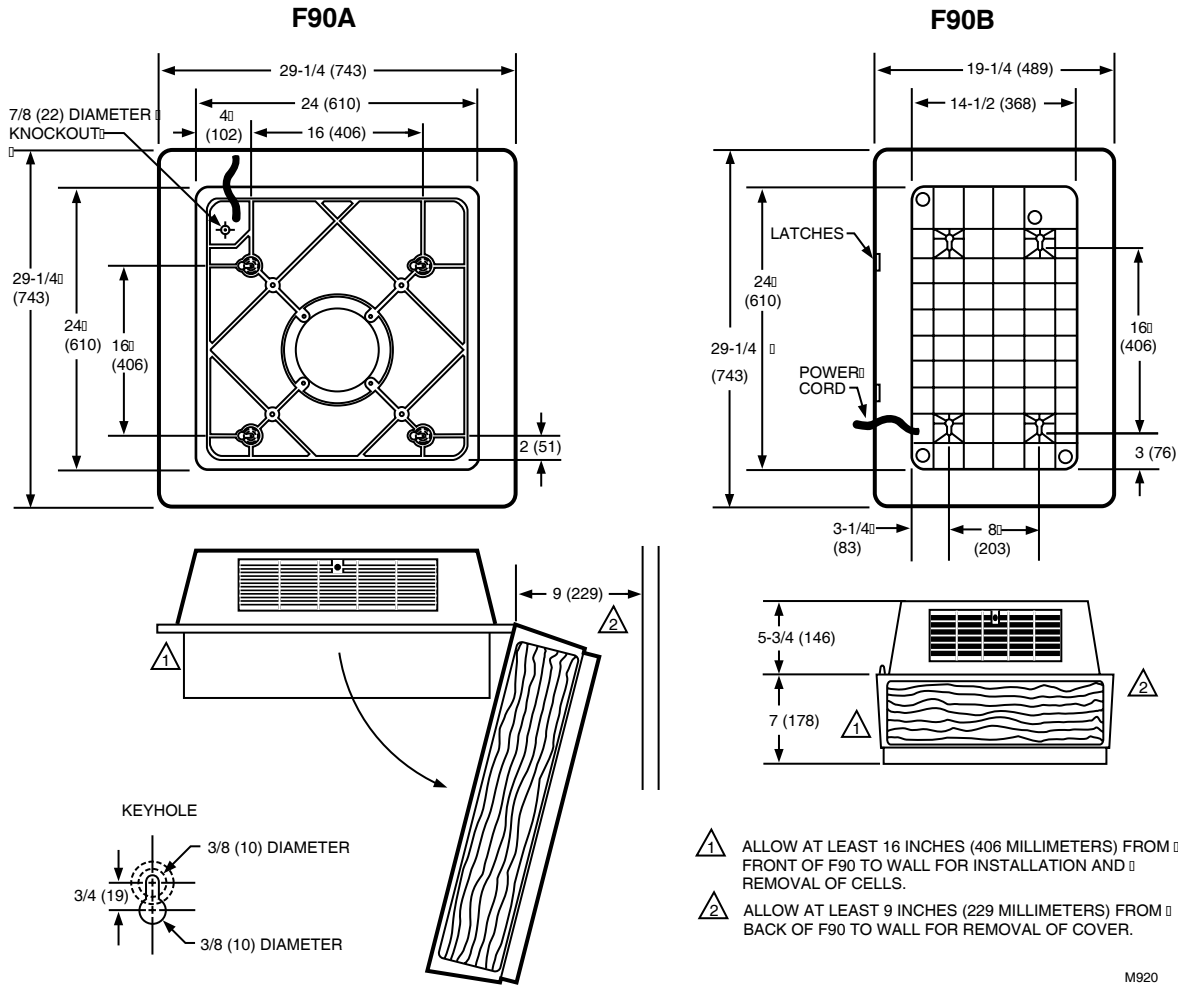

Fig. 7. F90 installation dimensions in in. (mm).
1. When mounting near walls, allow at least 16 in. (406 mm) for cell installation and removal and 15 in. (381 mm) for cover installation and removal. See Fig. 7.
For F90 installation dimensions, see Fig. 7.